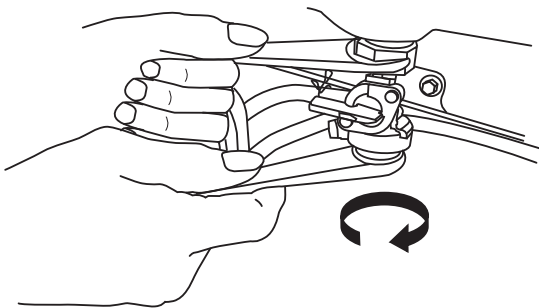

Figure 7-14
4. Hold the upper fitting of the fuel shutoff valve with a wrench, and remove the sediment bowl (see Figure 7-14).